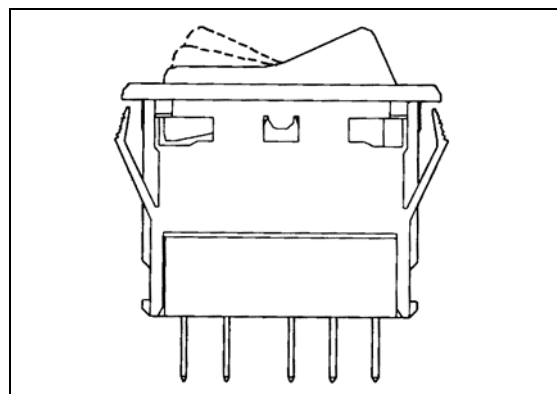

FIGURE 44: SWITCH
3. To install a new switch, reverse the procedure (Fig. 44).